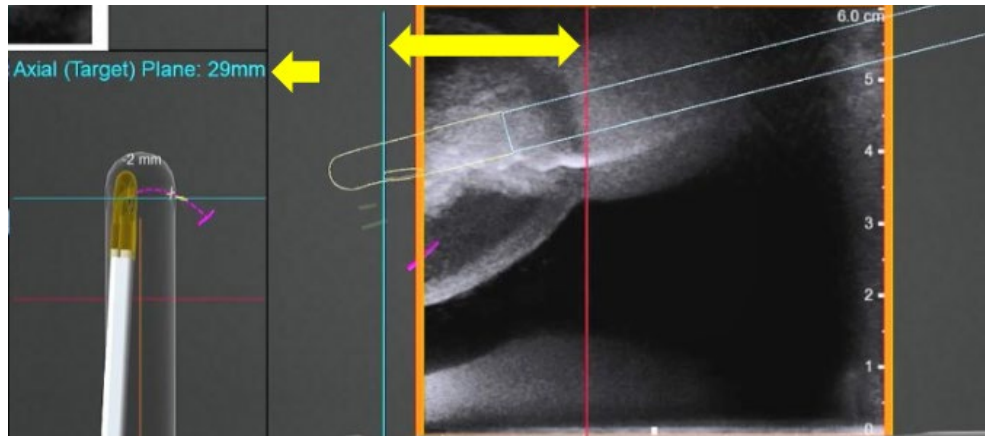

Figure 12-9: Apex Plane Measurement
■ **NOTE:** The Apex Plane, once a solid red line, remains at a fixed location in space and will no longer move with the ultrasound probe. It can then be used as a measurement tool showing the distance from the tip of the apex to the Axial (Transverse) ultrasound plane (**Figure 12-9**).